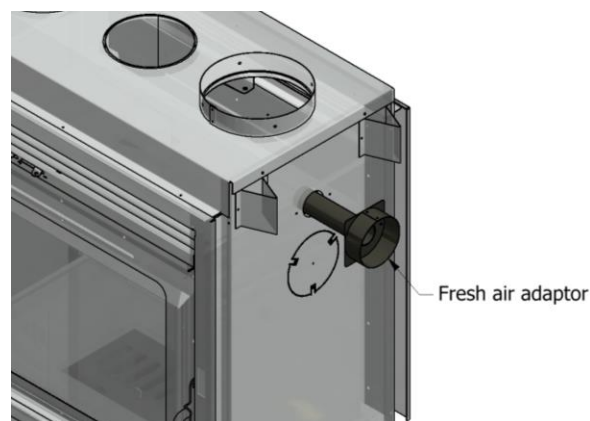

Figure 21 – Fresh Air Adaptor
- Insert the fresh air adaptor GY2330 (see figure 21).